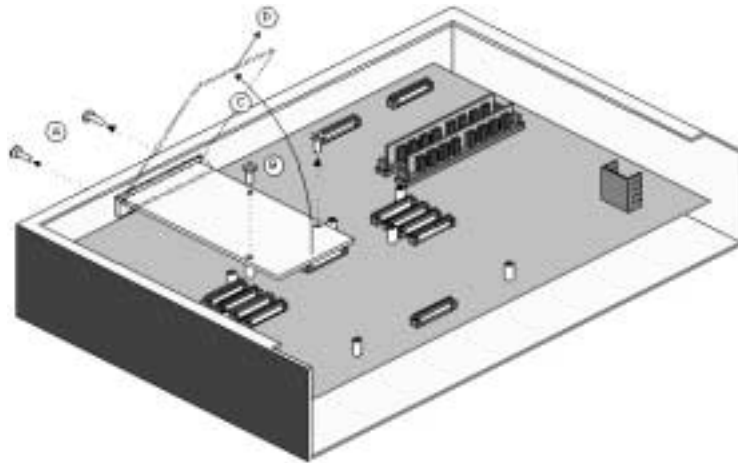

Figure 9-5: Removing PMC Option Card
This procedure describes how to remove and replace the Fibre Channel PMC card. Refer to Figure 9-5 while performing this repair action.
9. Lift up on the front panel edge of the PMC until the card is 45° from the motherboard (**C**). See Figure 9-5 on page 203.
10. Pull the PMC out of the ADIC Gateway and place it in a static-protective bag (D).